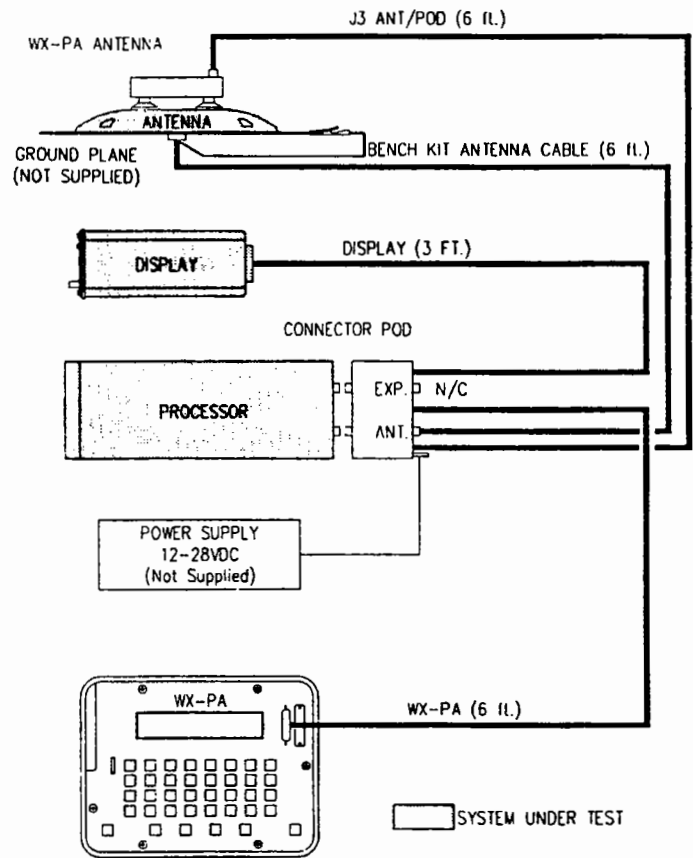

Figure 5-3. Bench Setup With Antenna
C. Initial Hookup is shown in figure 5-3.
2. Connect the 6 foot bench test antenna cable to the pod and secure it with the sliding lock. (Do not use the 25 foot WX-PA antenna cable, P/N 78-8060-5763-0, when bench testing.) See figure 5-3.
3. Connect the antenna cable circular plug to the antenna and connect the alligator clip to the ground plane. (Refer to figure 5-3.)
5. Connect the J3 antenna pod cable to the WX-PA antenna. (Refer to figure 5-3.)